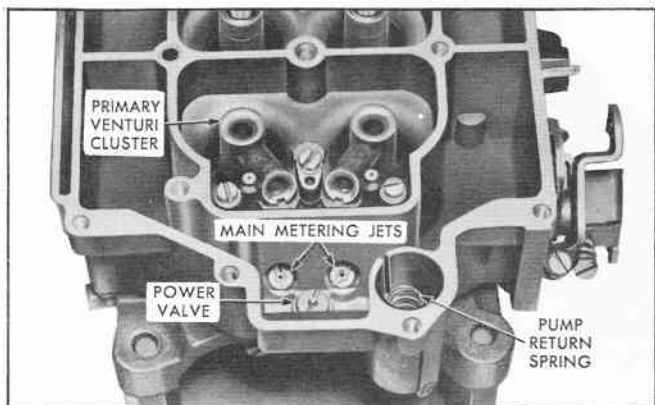

Fig. 13 Carburetor Body Assembly
1. Remove three attaching screws and lockwashers from venturi cluster on primary side and carefully remove cluster and gasket (Fig. 13).
2. Remove both main metering jets from primary side of carburetor body (Fig. 13).
3. Remove power valve and gasket (Fig. 13).
6. Remove pump return spring from pump well (Fig. 13). Carefully invert carburetor body to remove aluminum pump inlet ball.